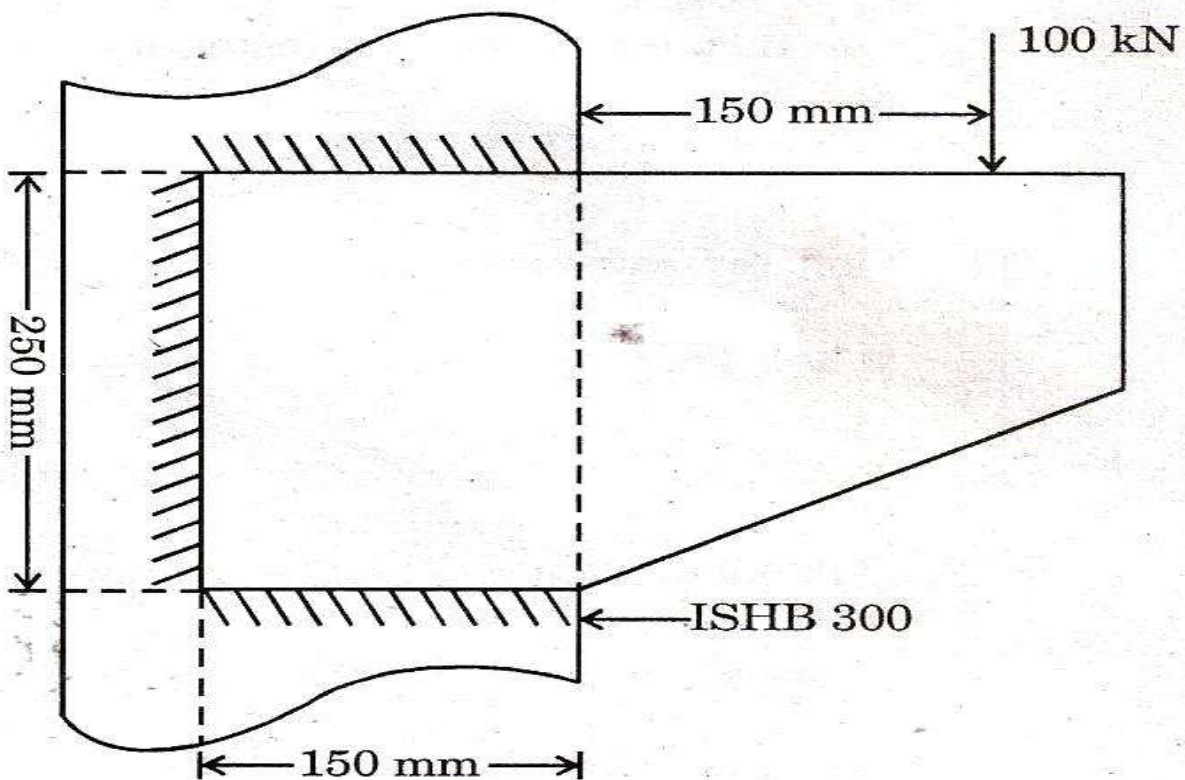

Fig. 3
- (b) A welded bracket connects a plate to a column flange as shown in Fig. 3. Determine the size of weld, if the allowable stress in the weld is 110 N/mm^2 .